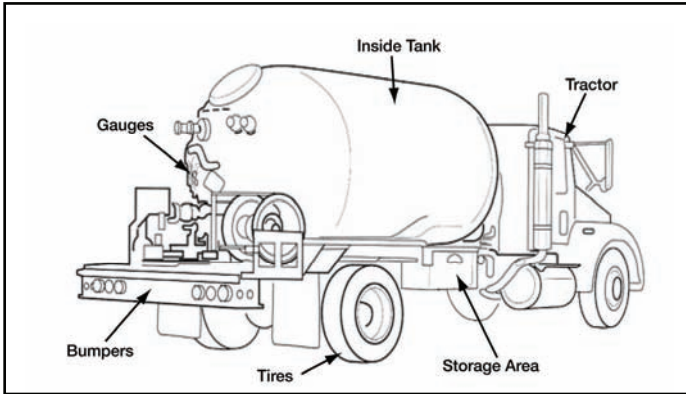

Figure 191-376-5141-7. Propane tanker
h. Determine if the commercial vehicle is a septic service truck (see figure 191-376-5141-8).